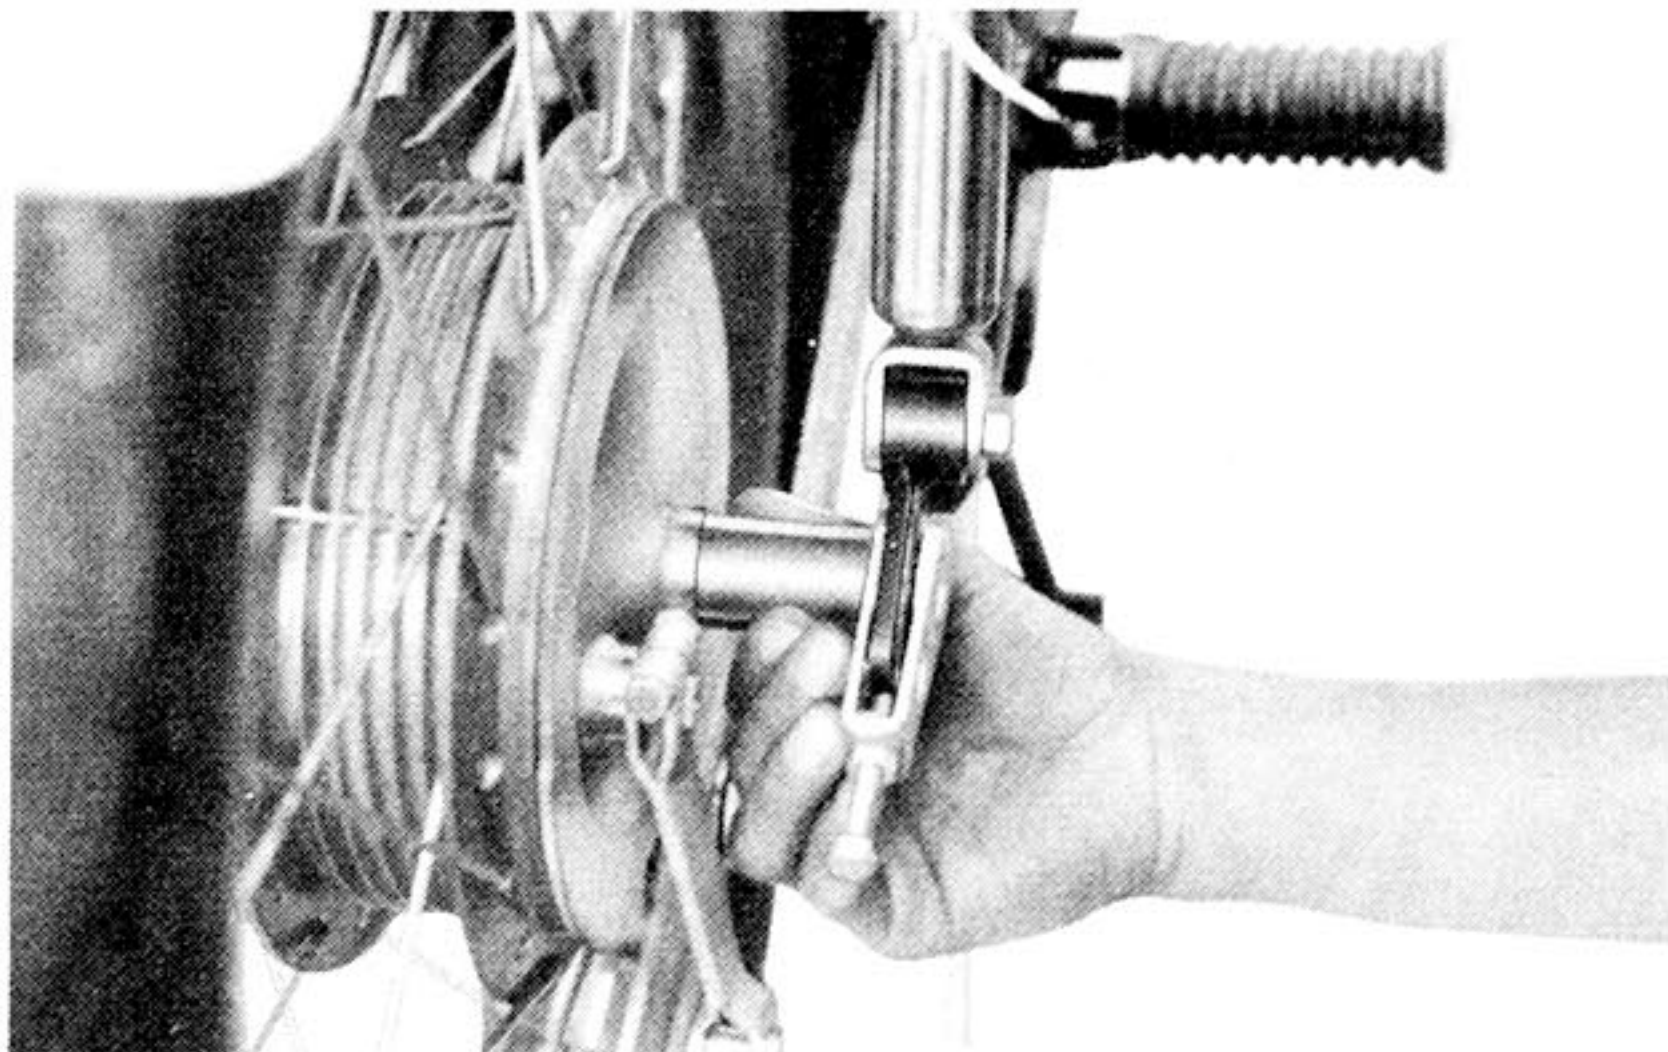

Fig. 5-2-7
(3) Remove the distance collar. (Fig. 5-2-7)